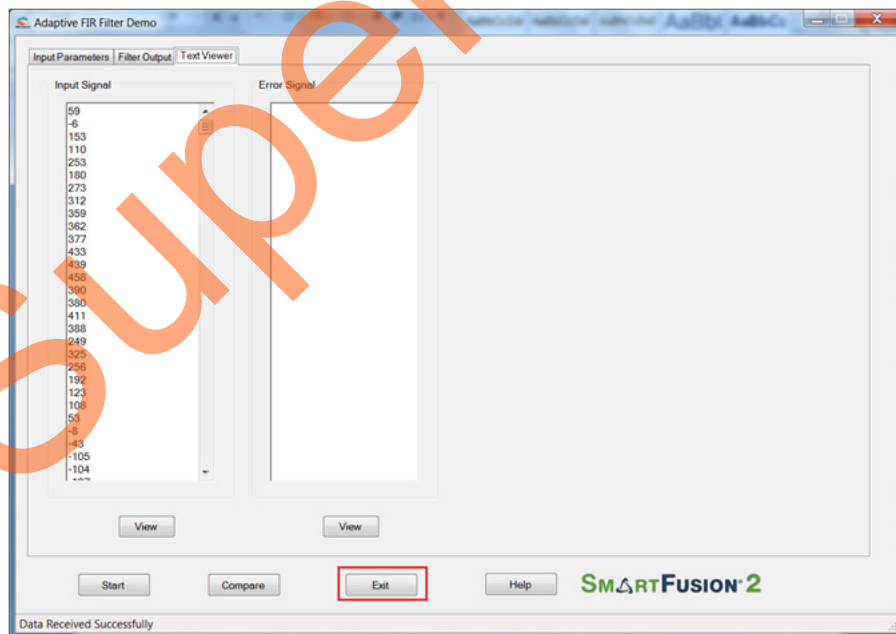

Figure 31 • Exit Demo
19. Click **Exit** to stop the demo, refer to Figure 31.